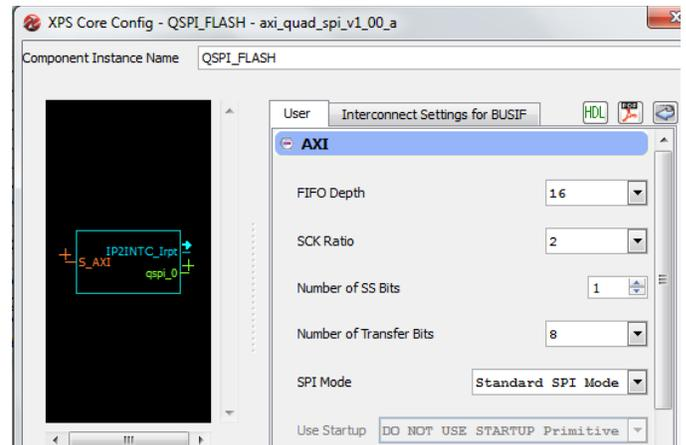

Fig. 4. Updating SPI Interface Clock Rate.
- SPI Flash interface (axi_quad_spi) operating at 100MHz. The used Winbond SPI Flash memory W25Q64BV can run up to 80MHz in standard SPI mode, then we changed the C_SCK_RATIO parameter in AXI Quad SPI core to 2 as described in [7] (see figure 4). This will run SPI Flash at 50MHz.